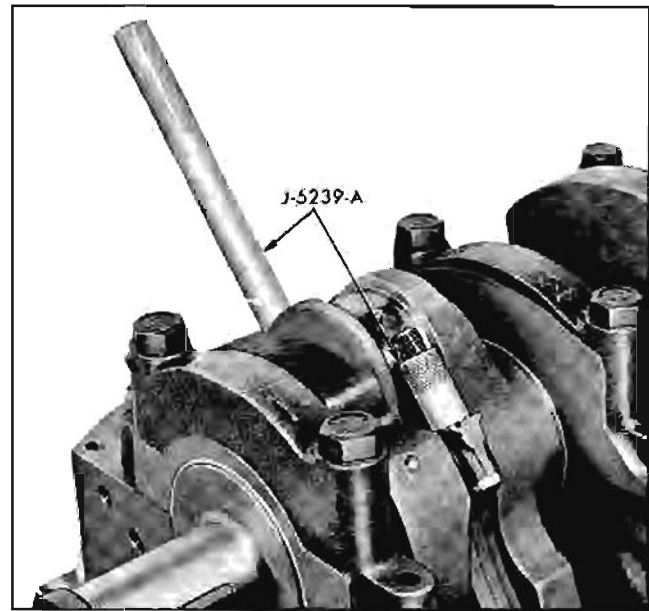

Fig. 6-51 Bolt Guide Set Installed
5. Install Connecting Rod Bolt Guide Set J-5239 on connecting rod bolts (Fig. 6-51).
6. Remove bearing cap and install connecting Rod Bolt Guide Set J-5239 (Fig. 6-51).